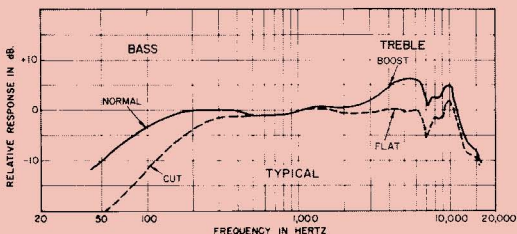

FIGURE 1
Frequency Response: 50 to 15,000 Hz (see Figure 1)
- Switch:** Built-in recessed On-Off switch, and recessed Tone-Shaping switches: BASS-Normal/Cut & TREBLE-Flat/Boost (see Figure 1 and Page 3 for effects on response)